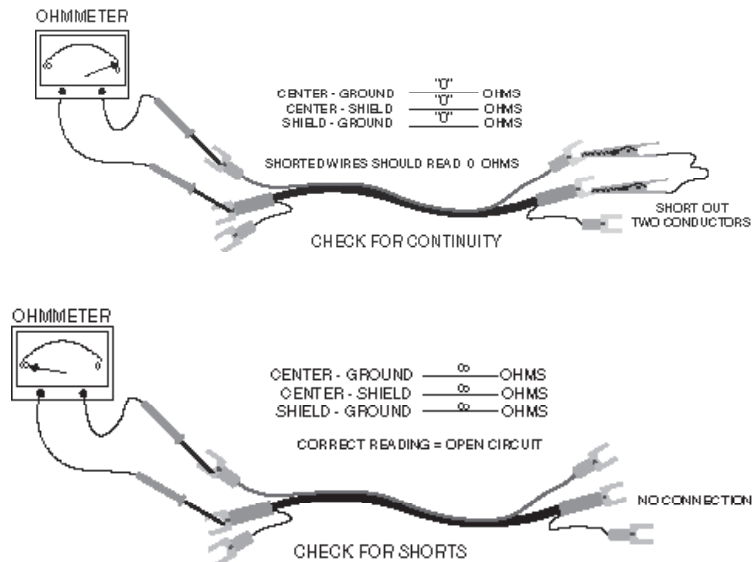

Figure 5-4
2. Using an ohmmeter measure the resistances as shown in Figure 5.4